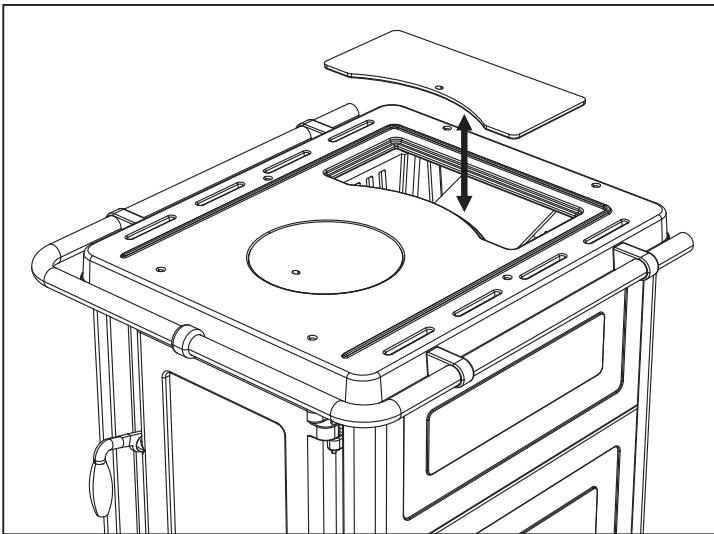

Figure 5
**Cleaning the flue gases ducts in the firebox** - lift the cleaning lid on the hob (Figure 5) and use the auxiliary accessories to scrape the soot into the firebox. This kind of cleaning is recommended to be performed periodically in order to have proper functioning of the stove and prevent clogging of the oven flue ducts.